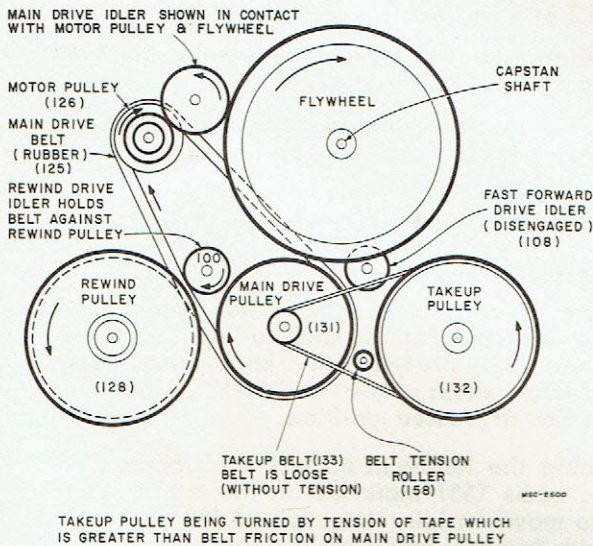

Figure 3—Diagram of Mechanical Drive System—
Main drive pulley (131) is belt-driven from motor pulley (126) at constant speed independent of flywheel speed. Takeup drive pulley (132) is driven from small-diameter section of dual drive pulley (131) by means of a flat belt (133). This belt is designed to slip on the dual drive pulley to provide a constant forward tension on the tape with any amount of tape on the right-hand reel. Refer to figures 3, 4 and 5. A spring-loaded idler roller is used to provide tension on the takeup belt.
When the "← FAST" pushbutton (18) is depressed, the pushbutton cam pushes the rewind drive idler slide (97) to the rear, forcing the idler roller (100) against main drive belt (125). The drive belt is thus caused to contact the rewind drive pulley (128) and drive it at a fast speed. Refer to figure 3.